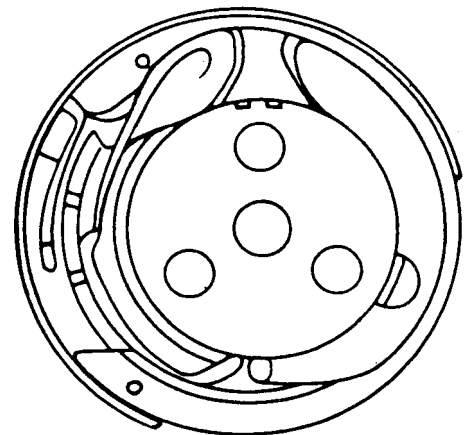

Fig. 103
- Turn the handwheel until the opening of the sewing hook faces to the left (fig. 103).